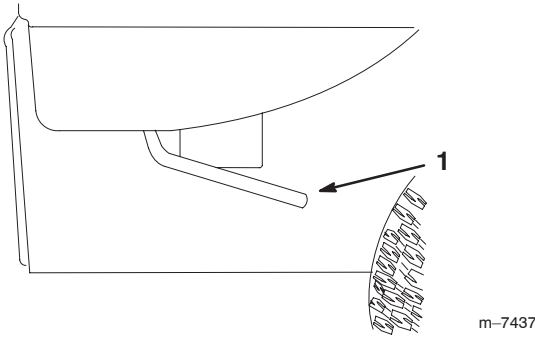

Figure 11
1. Lift the lever on either side of the box and lift the box up (Fig. 11).